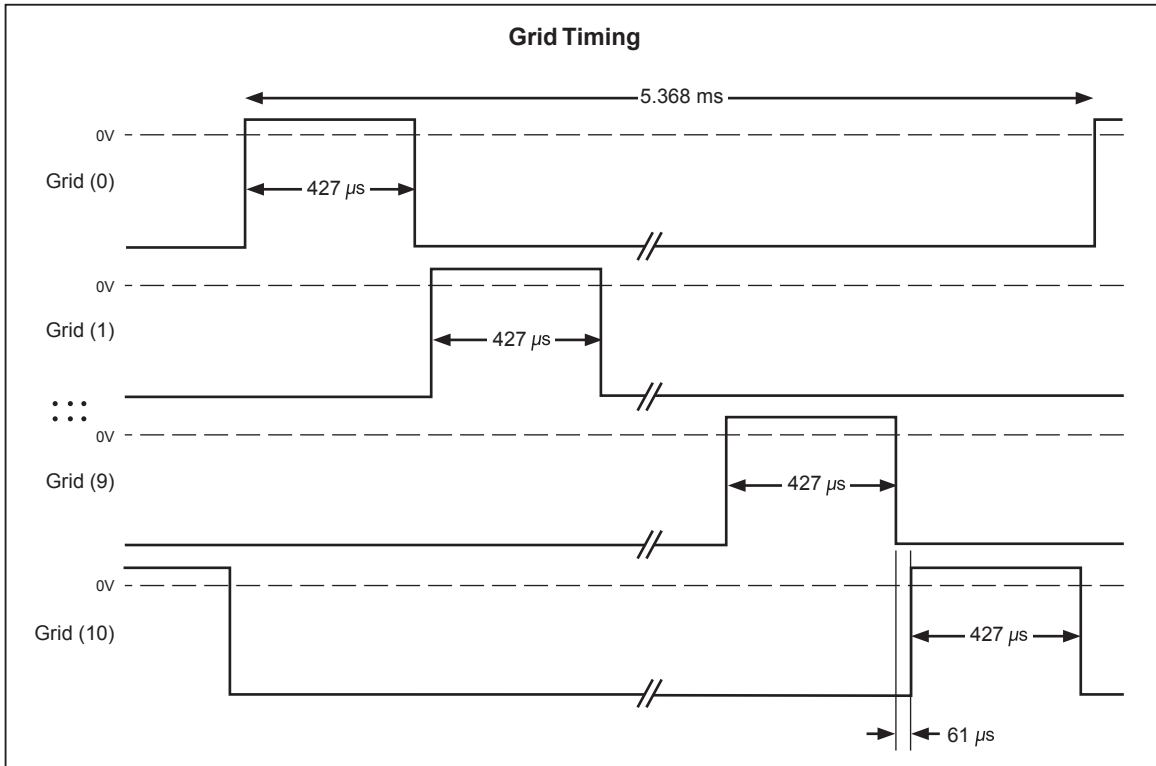

Figure 2-10. Grid Control Signal Timing
The Display Controller drives the vacuum-fluorescent display in a multiplexed manner by strobing each grid individually while the segment data for that display area is presented on the anode outputs. Each grid is strobed for approximately 427 microseconds every 5.368 milliseconds, resulting in each grid on the display being strobed about 170 times per second. The grid strobing sequence is from GRID(0) to GRID(10), which results in right-to-left strobing of grid areas on the display. Figure 2-10 shows grid control signal timing.